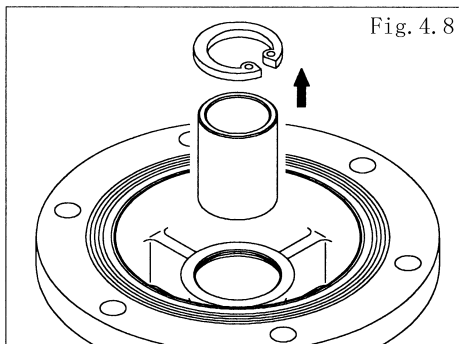

Fig. 4.8
- Remove the C type snap ring, and remove the throat bearing from the air chamber. [Fig. 4.8]